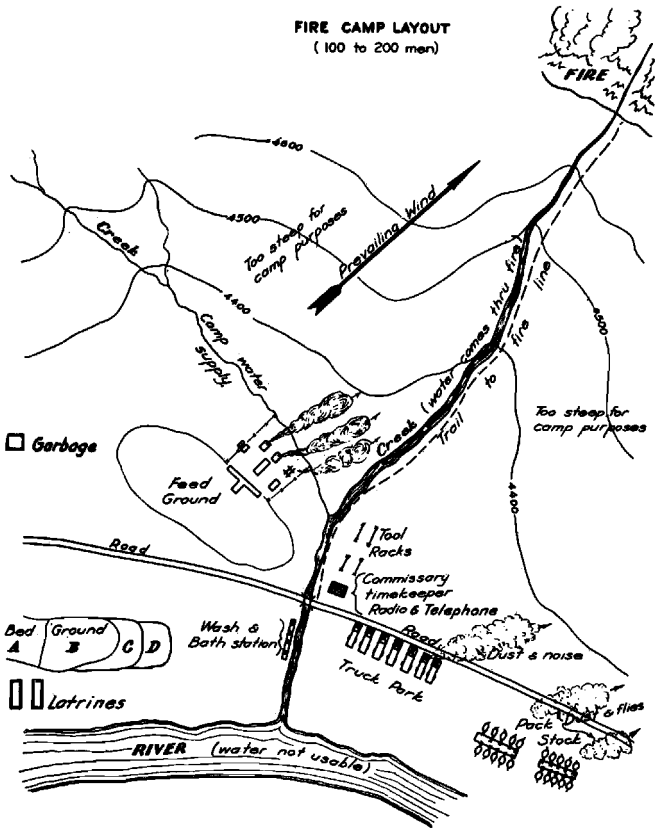

Figure 14
1. Kitchen. Arrange stoves and open fire so smoke blows away from kitchen. Wood for Kimmel stoves, 20 inches long. "T" table for double line feeding, 16 to 20 feet long, depending on size of crew, not over 30 inches high. (See figure 14.)